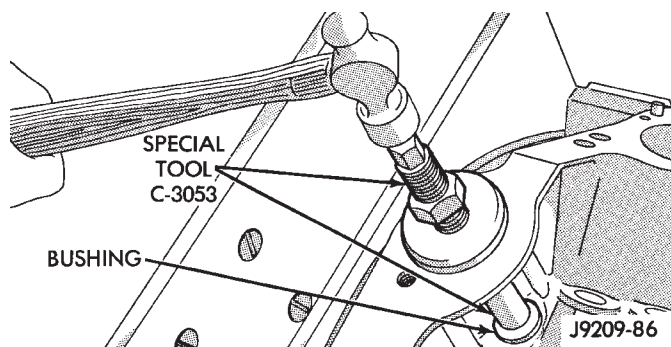

Fig. 34 Distributor Driveshaft Bushing Installation
- (1) Slide new bushing over burnishing end of Distributor Drive Shaft Bushing Driver/Burnisher Tool C-3053. Insert the tool and bushing into the bore.
- (2) Drive bushing and tool into position, using a hammer (Fig. 34).